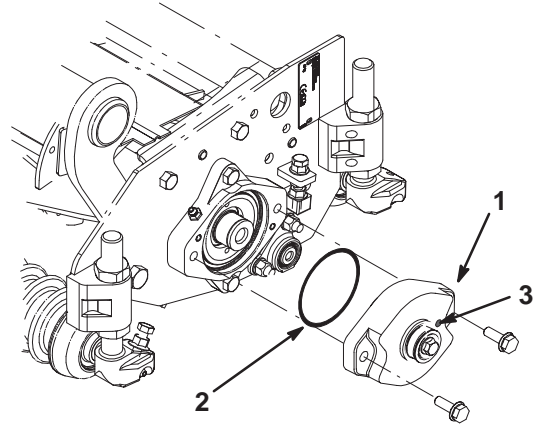

Figure 4
4. Mount new main roller brush housing and previously removed O-ring to reel bearing housing with (2) M10-1.5 x 30mm flange bolts (15mm wrench) or 3/8-16 x 1-1/4" lg (9/16 wrench) depending on serial number (Fig. 4). Main roller brush housing to be positioned so threaded hole is to the rear of cutting unit.